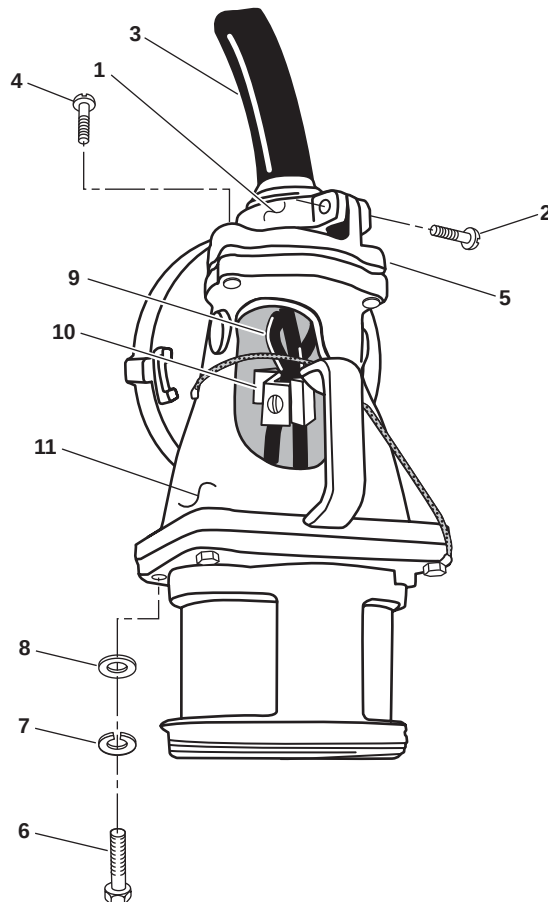

Figure 2. Shore Power Cable Connector Repair
1. Loosen the strain relief clamp (figure 2, item 1) by loosening the two screws (figure 2, item 2) that secure the strain relief clamp to the shore power cable (figure 2, item 3).
2. Remove the three screws (figure 2, item 4) securing the strain relief clamp housing (figure 2, item 5).
3. Remove the four screws (figure 2, item 6), four lockwashers (figure 2, item 7), and four flat washers (figure 2, item 8) and slide the assembly down the shore power cable (figure 2, item 3) far enough to gain access to the wiring. Discard the lockwashers.
4. Label and disconnect the wiring (figure 2, item 9) from the terminals (figure 2, item 10).
5. Remove the connector (figure 2, item 11) from the shore power cable (figure 2, item 3).
1. Install the shore power cable (figure 2, item 3) through the strain relief clamp (figure 2, item 1), the strain relief clamp housing (figure 2, item 5), and into the connector (figure 2, item 11).
2. Install the wiring (figure 2, item 9) to the terminals (figure 2, item 10) using the labels from step 4 of Removal as a guide. Remove the labels.
3. Install the four screws (figure 2, item 6), four new lockwashers (figure 2, item 7), and four flat washers (figure 2, item 8) securing the connector (figure 2, item 11) to the shore power cable (figure 2, item 3).
4. Slide the strain relief clamp housing (figure 2, item 5) down to the connector (figure 2, item 11).
5. Install the three screws (figure 2, item 4) securing the strain relief clamp housing (figure 2, item 5) to the connector (figure 2, item 11). Tighten the three screws evenly around the strain relief clamp housing.
6. Secure the strain relief clamp (figure 2, item 1) to the power cable (figure 2, item 3) by tightening the two screws (figure 2, item 2).